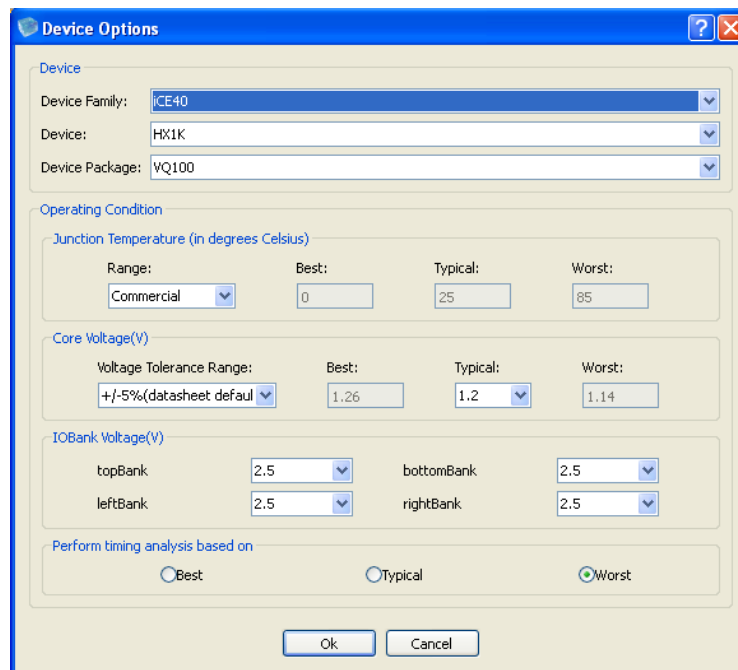

Figure 3-11: Device Options for iCE40 Family
Device options wizard is shown in Figure 3-11.
3. **IO Bank Voltage**: This option is available only for iCE40 family as shown in Figure 3-11. Select a bank voltage from the provided options for the top, bottom, left, right banks. The specified IO Voltage values are used by Power Estimator and Static Timing Analysis tools.